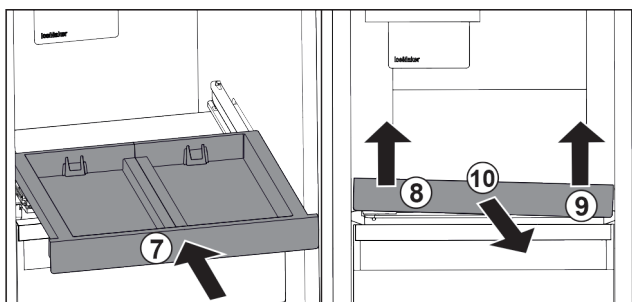

Fig. 20
- Slide in the pull-out board. Fig. 20 (7)
- Lift the pull-out board at the front left. Fig. 20 (8)
- Lift the pull-out board at the front right. Fig. 20 (9)
- Take out the pull-out board to the front. Fig. 20 (10)